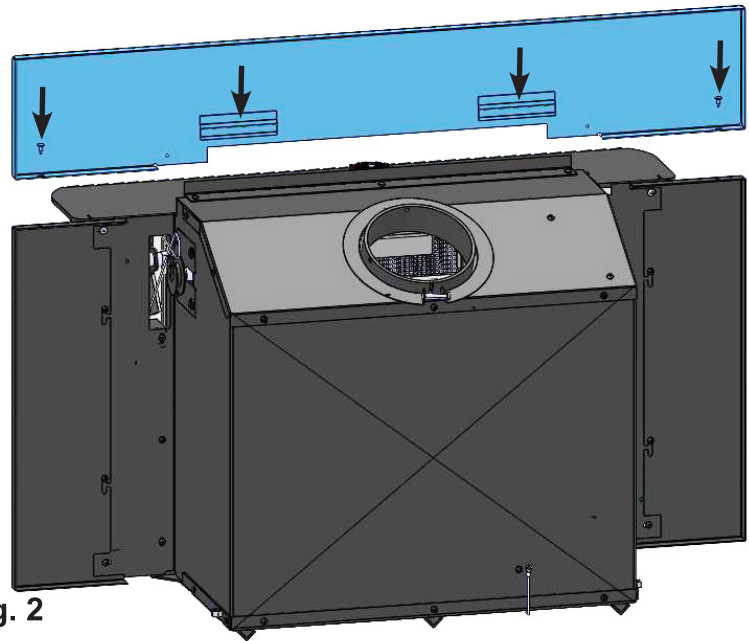

Fig. 2
5. Place the shroud top onto unit sliding it down so the tabs on the back of the shroud top slide over the tabs flange on the unit. (**Fig. 2**)
6. Screw the shroud top to the shroud sides. (2 screws) (**Fig. 2**)